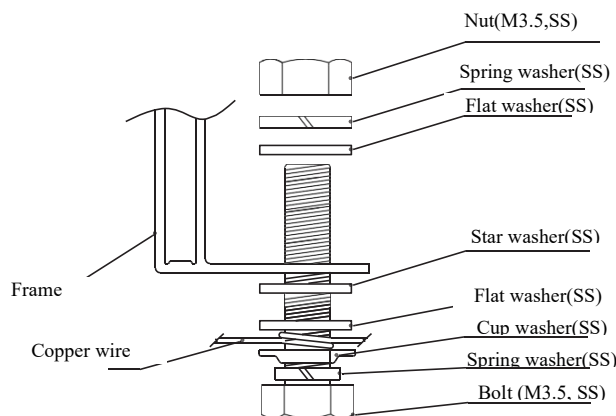

Figure 6
- The grounding bolts must be made of stainless steel and be used in the specified grounding holes. First, make the M3. 5 stainless steel bolt pass through the spring washer, flat washer, cup washer (copper conductor with a diameter of 2.1 mm) and star washer, and then insert through the grounding hole, flat washer and spring washer on the frame. Finally, tighten with a M3.5 nut. Caution: The upper limited temperature of the conductor is 85°C. As for the installation, refer to Figure 6.